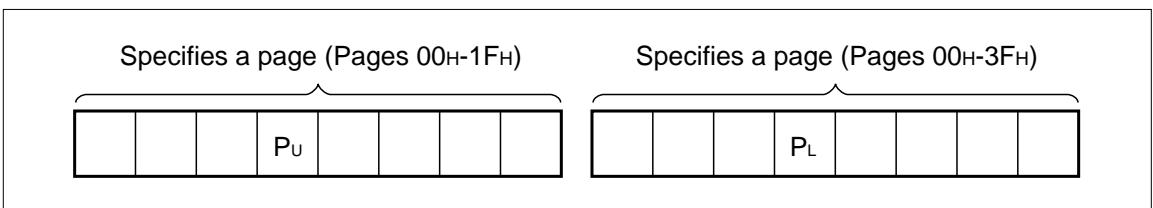

**Fig. 5 Program Counter PC and Stack Register SR**
The program counter PC specifies the ROM address. The PC consists of 12-bit as shown in Fig. 5 : The upper 6-bit (PU) represents a page while the lower 6-bit (PL) denotes a step. The PU section is a register and the PL section, a binary counter.